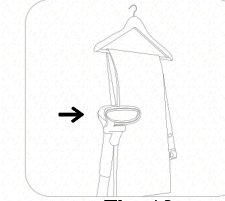

Fig. 19
- Put the cloth between splint and steam brush. Fig.19.